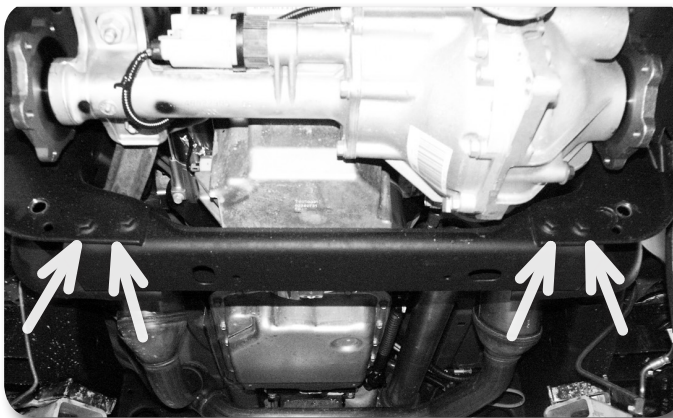

Figure 12
20. Remove the four bolts and the factory rear crossmember from the vehicle Figure 12. Crossmember and hardware will not be reused.